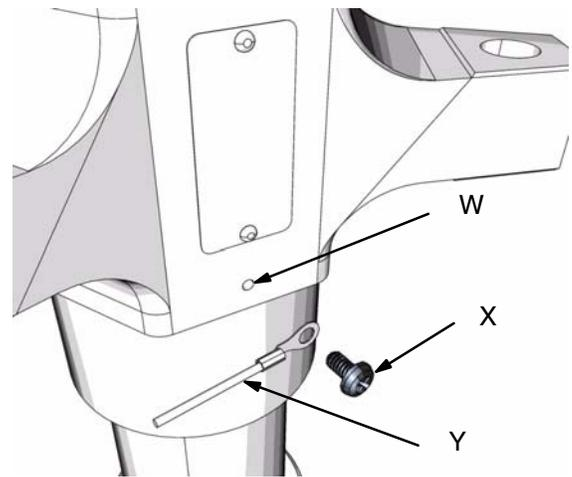

Fig. 1
1. *Pump*: the pump is grounded with a wire connecting the pump from the control enclosure. Locate the small hole (W) in the pump outlet housing. See Fig. 1. Attach the ground wire (Y) to the pump outlet housing using the ground screw (X) supplied with your system. Tighten the ground screw securely. Do not operate the equipment without the ground wire in place.